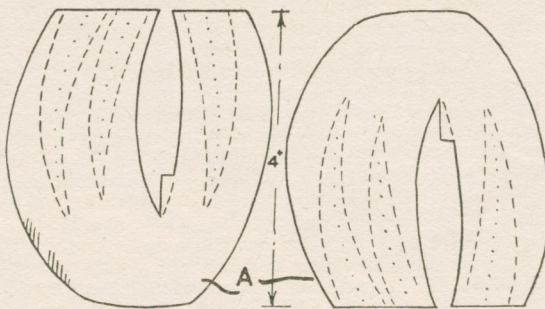

Fig. 1—First shapes cut out in card
The shapes shown in Fig. 1 should be cut out of white cartridge paper, and the dotted lines drawn lightly in pencil on the underside of the paper. The lines indicated by dashes should be drawn on top of the paper. These pencil lines should now be scored with a pen-knife or some other
By pressing on the dotted lines a V-shaped fold will now be formed by each set of three lines, and part (B) will fold under (C) whilst (D) is merely folded down. The two parts at (A) form the ends of the bow. After part (E) Fig. 1 has been cut out and folded, this forms the centre of the bow and gives the twist effect by pasting (C) and (B) on the underside of (E) after passing through the arch. Thus all parts now form one complete piece.